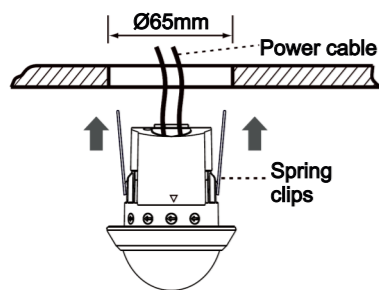

FIG. 9
3.4.4 Close up sensor's two spring clips and insert sensor into the drilled hole on ceiling (See FIG. 9).